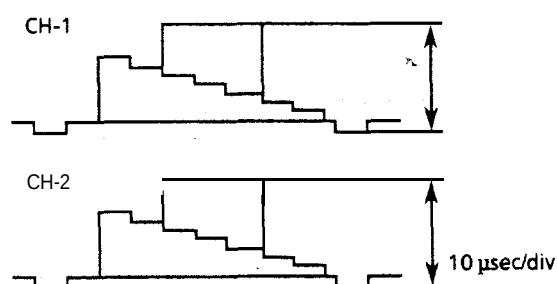

Figure 2-12.
2. Adjust R240 (delay level control) so that the levels of CH-1 and CH-2 are the same as shown in Figure 2-12.